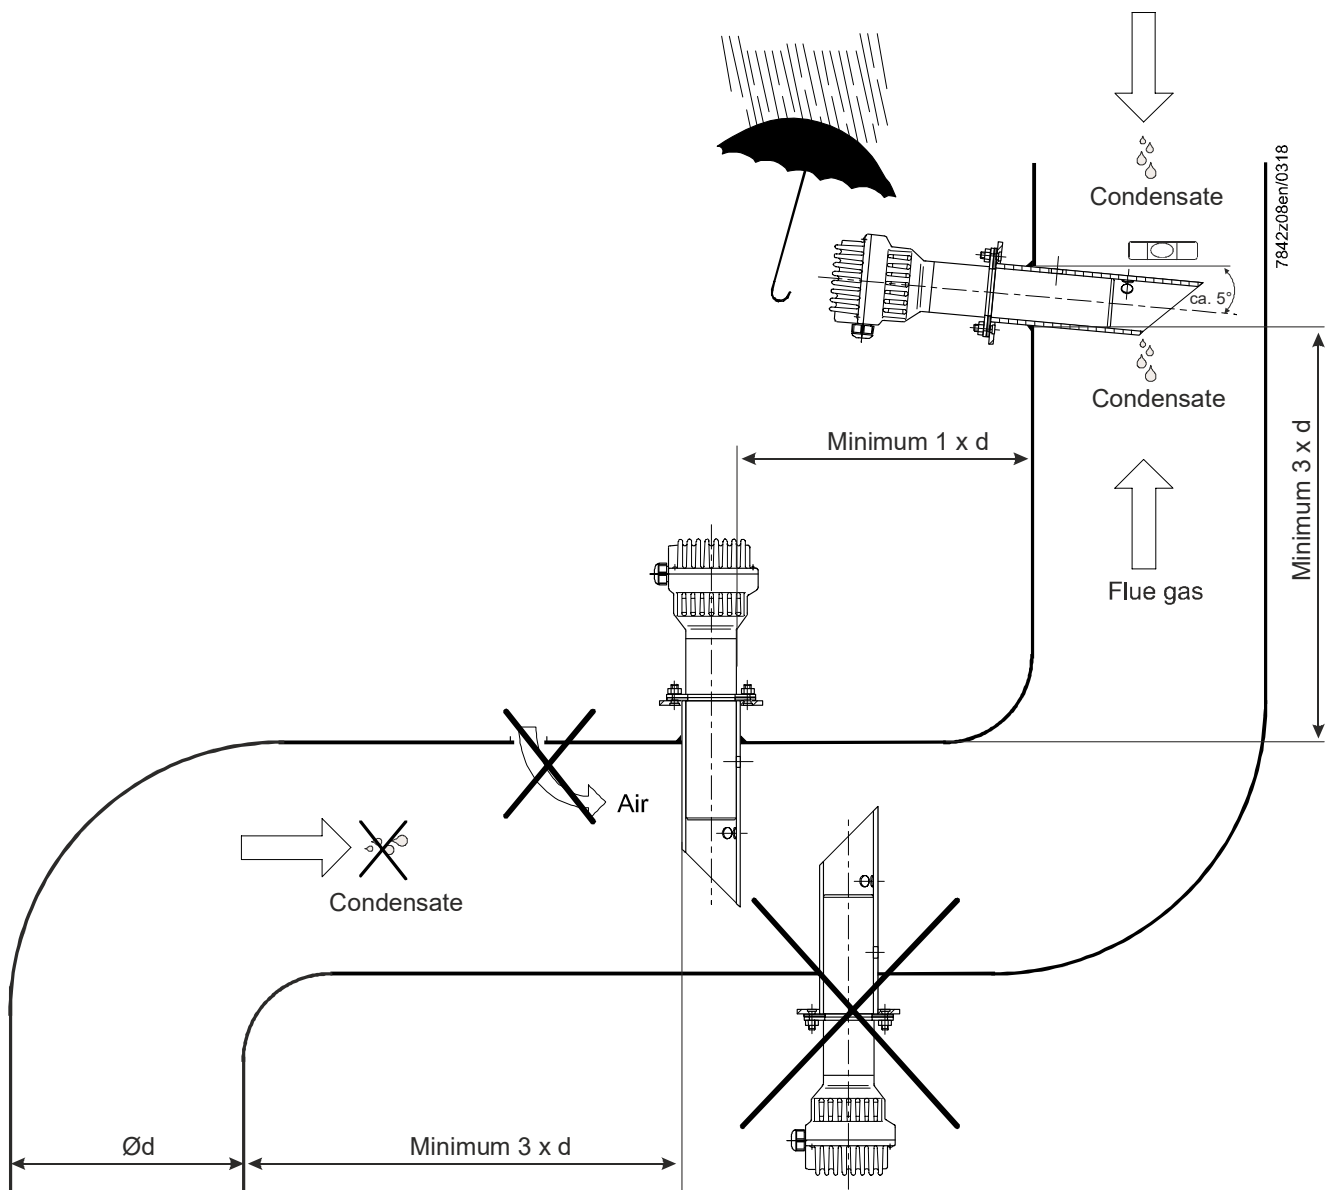

Figure 7: Mounting position of QGO20
1. Collection of flue gases and passing them to the sensor (Figure 7), adapting the sensor to the chimney.
Refer to the mounting instructions in the QGO20 data sheet (N7842) for details on the mounting position. To reduce the response time in the case of low flow rate, the AGO20 can also be mounted in an inclined position (Figure 7). It must be ensured that the hole closest to the sensor head protrudes into the chimney.